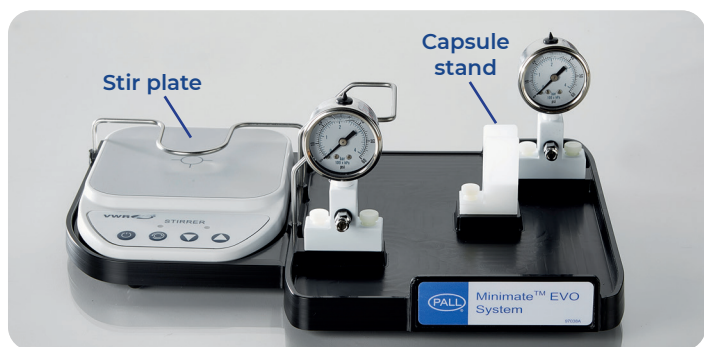

Figure 2
5. Slide stir plate into left compartment of drip tray underneath reservoir bracket. Attach capsule stand on raised boss in center of drip tray with screw in threaded hole. Turn screw until snug fit, but allows the stand to move. (See figure 2)